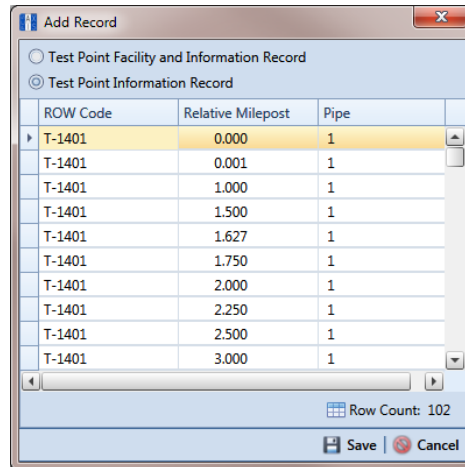

Figure 7-6. Add Record
- 6 Click **Add** to open the *Add Record* dialog box (Figure 7-6). Then continue with one of the following steps:
- a Click the option **Test Point Information Record**. Then select a facility in the list of facilities in the *Add Record* dialog box. For example, the facility at *Milepost 0.000* is selected in the previous figure (Figure 7-6, page 218).